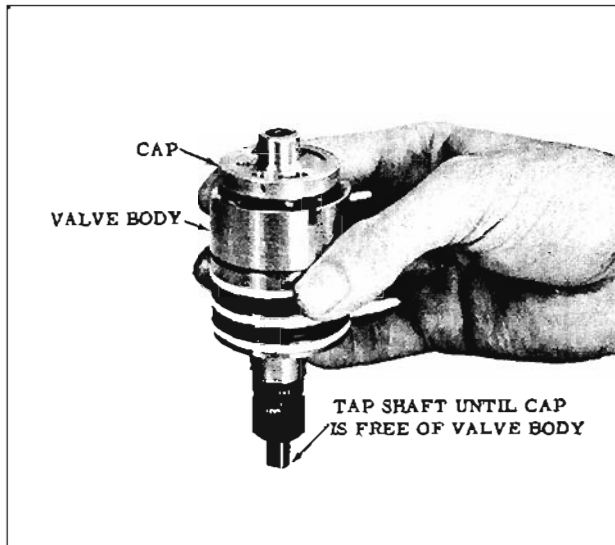

Fig. 8-55 Freeing Shaft Cap
- a. While holding the assembly (lower shaft down), lightly tap the lower shaft against the bench until the shaft cap is free from the valve body. (Fig. 8-55) The spool valve should be held in the valve body while tapping the shaft.